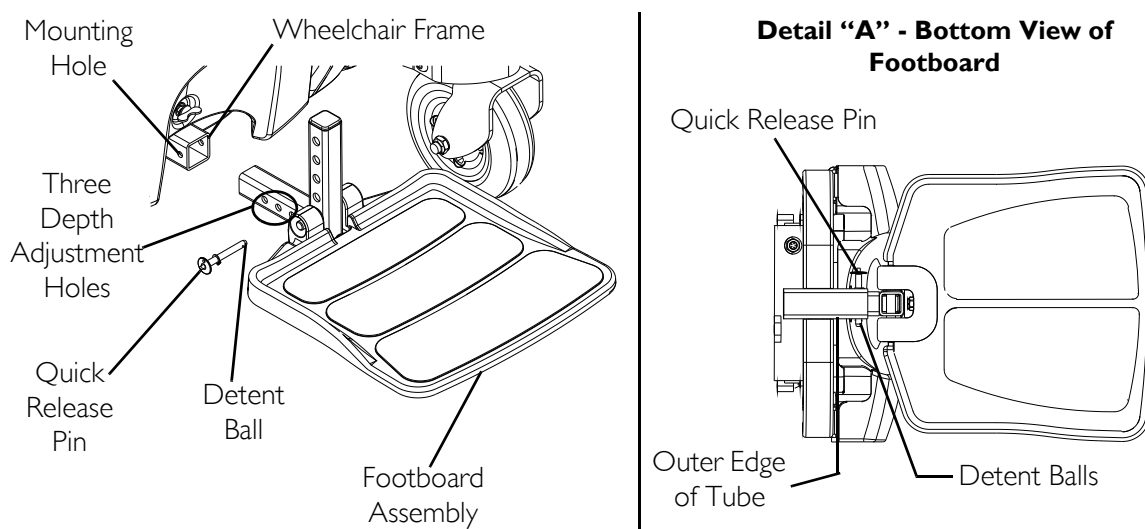

FIGURE 8.3 Adjusting the Footboard Assembly - Depth
2. Install the quick release pin by depressing the button while sliding the pin in. Make sure the detent balls are fully released beyond the outer edge of the tube (Detail "A" of FIGURE 8.3).
NOTE: For this procedure, refer to FIGURE 8.3.
3. Install the quick release pin. Make sure the detent balls are fully released beyond the outer edge of the tube (Detail “A” of FIGURE 8.3).